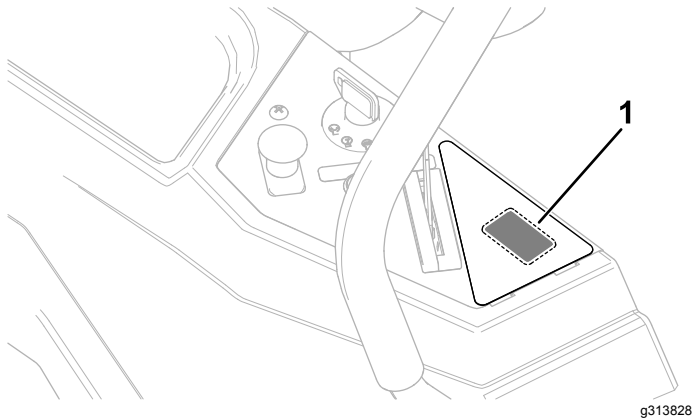

Figure 2
1. Locate the cutout location for the hour meter in the control panel, and cut an X-pattern or remove the rectangular portion of the decal (Figure 2).